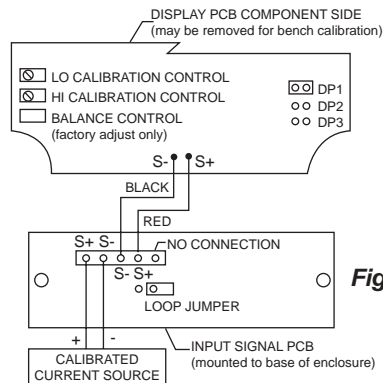

Figure 1
To access the input terminals it is necessary to remove the enclosure cover and the Display PCB. This is done by loosening the four screws on the enclosure cover and removing the cover. Completely loosen the left screw that holds the Display PCB to the enclosure and loosen the right screw about four turns so the Display PCB remains secure to the enclosure. Rotate the Display PCB 90° to gain access to the Input Signal PCB. Next, connect a calibrated current source per Figure 1.
LO and HI calibration controls are located to the left of the display (see Figure 1). Apply a signal equal to 4 mA and adjust the LO control to display the desired reading. Apply a signal between 16 and 20 mA and adjust the HI control to display the desired reading. Complete the calibration procedure by making any minor adjustments to the LO and HI controls.
3. Connect red wire to S+ terminal and black wire to S- terminal, as shown in Figure 1.